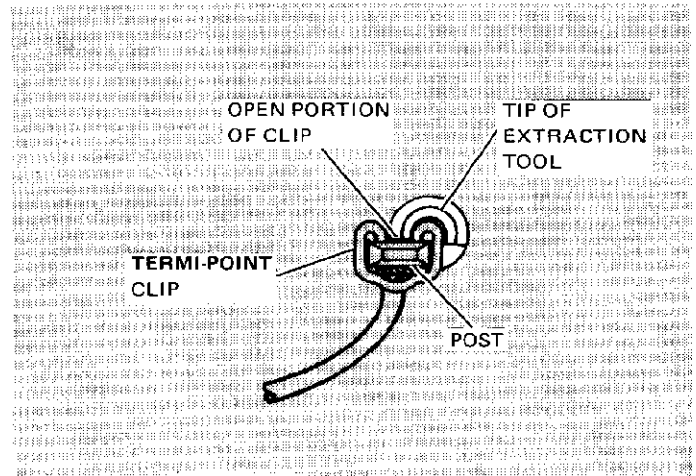

Figure 2
- (a) Hold tool perpendicular to panel. Then, hook the tip of the extraction tool under the curl on the clip. See Figure 2.